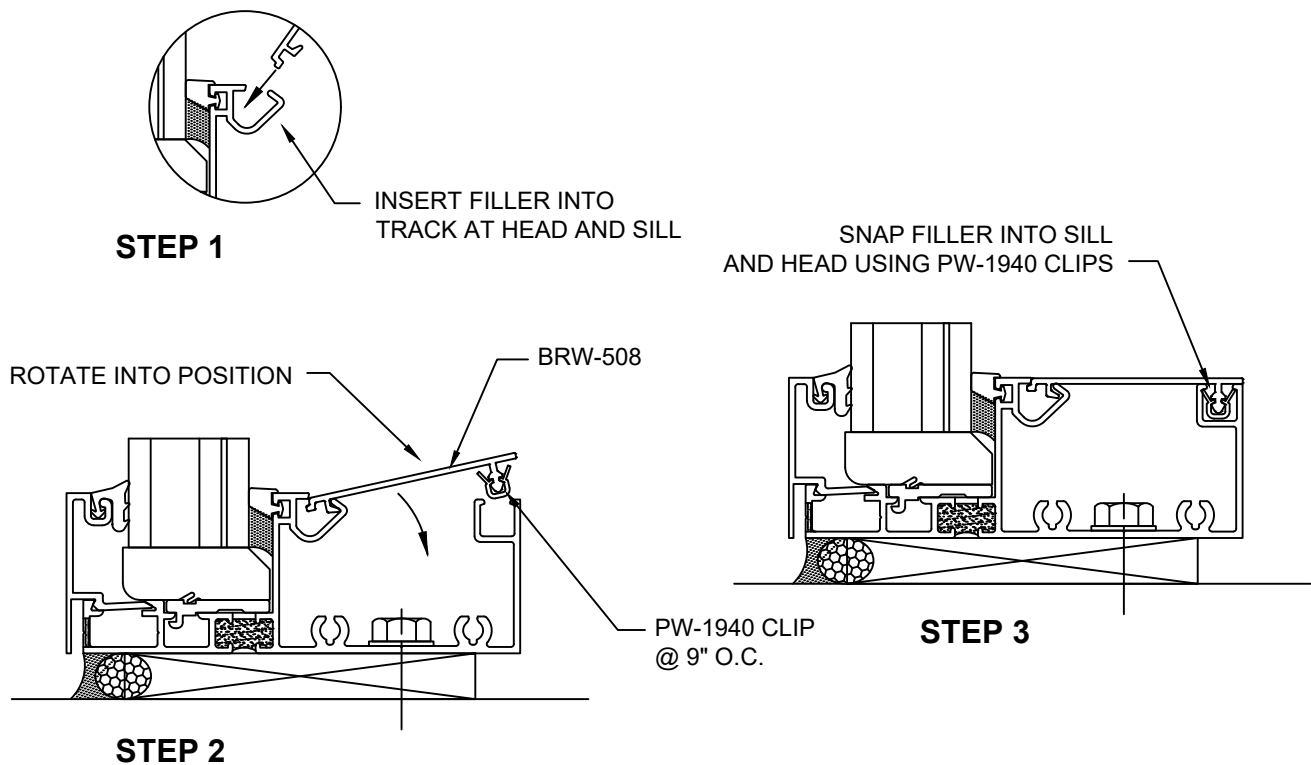
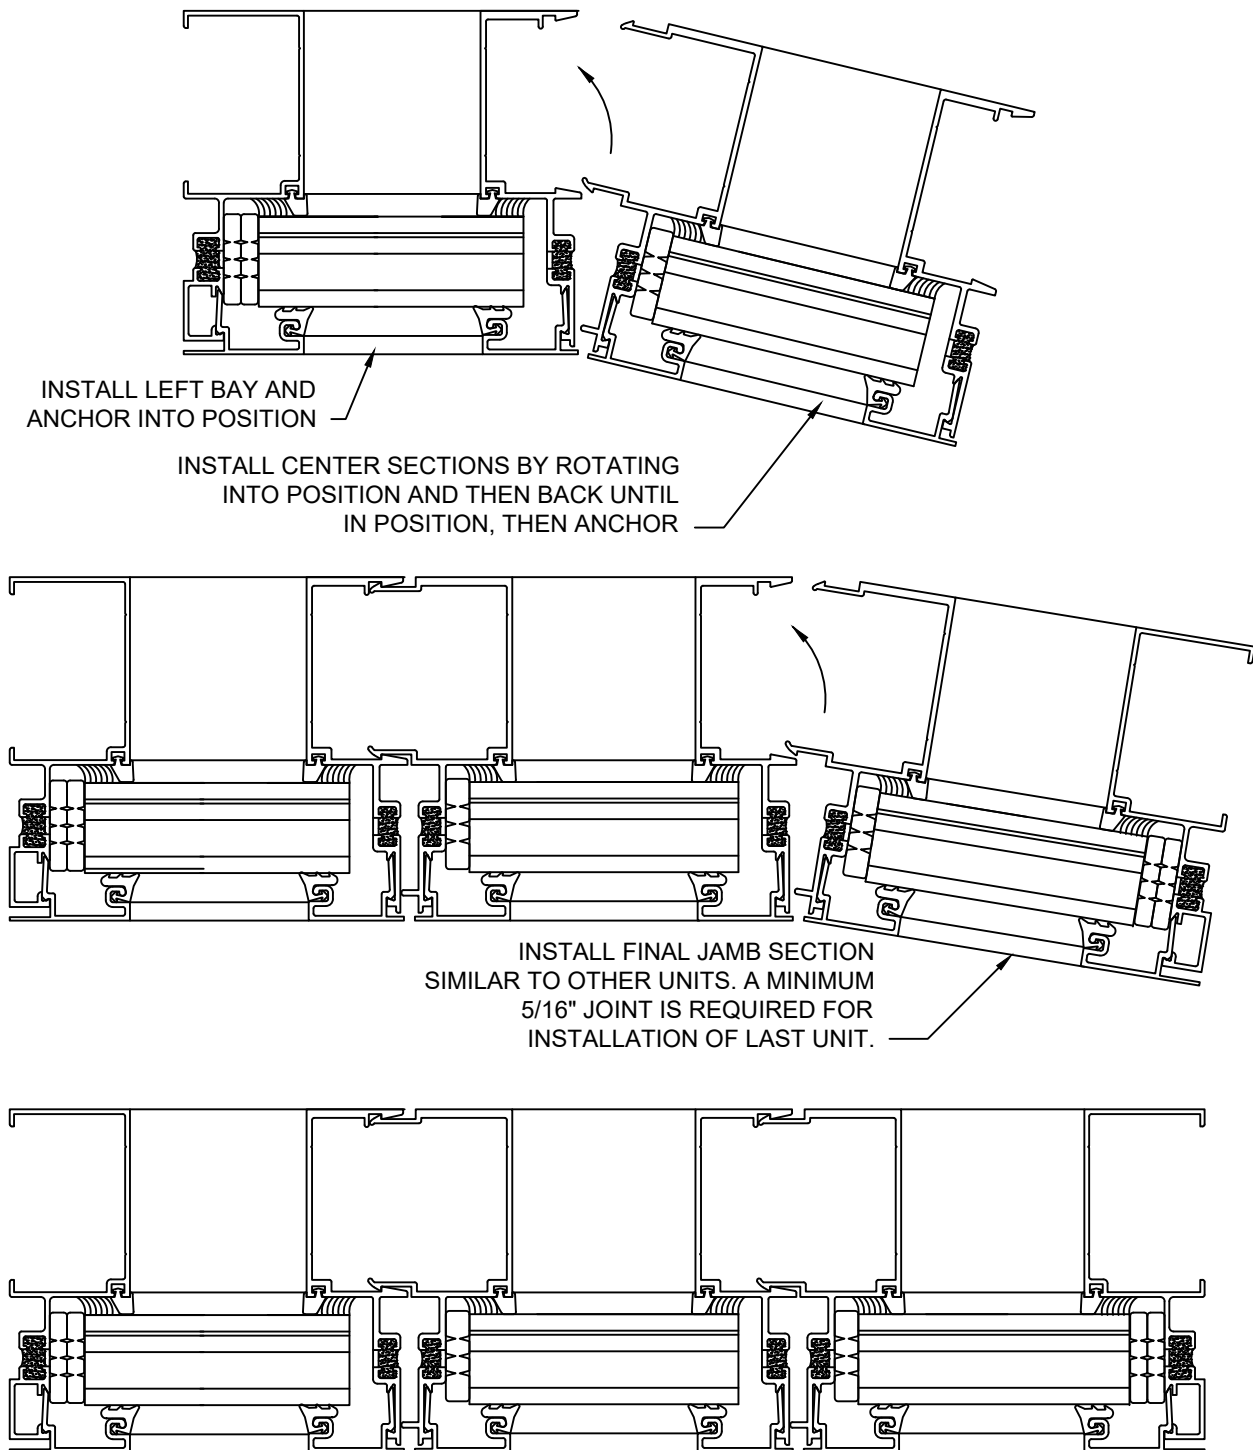

FIGURE 13
FIGURE 14
- 4.1 Begin installation of frames at left jamb. Locate in opening positioning frame to be plumb and level. Attach frame to opening using anchor bolts as shown in FIGURE 13. Anchor size to be determined by project requirements. Position and install additional units as shown in FIGURE 14, page 15.
- 4.2 Once frame has been installed. Install BRW-508 sill and head fillers. PW-1940 isolator clips should be attached to filler at 9" on center, rotate filler into pocket at head or sill and then snap into position as shown. See FIGURE 13.